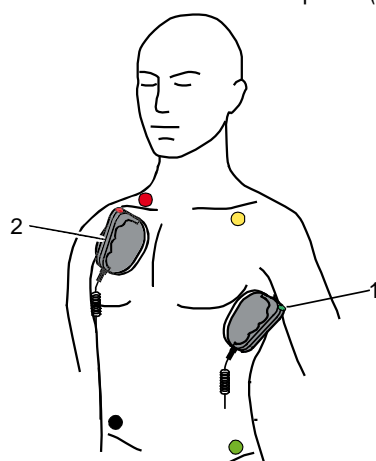

Fig. 5-6 Applying the shock paddles
8. Place the APEX shock paddle (Fig. 5-6, item 1) on the lower left of the thorax beside apex of the heart (5th ICS).
9. Place the STERNUM shock paddle (Fig. 5-6, item 2) to the right of the sternum.